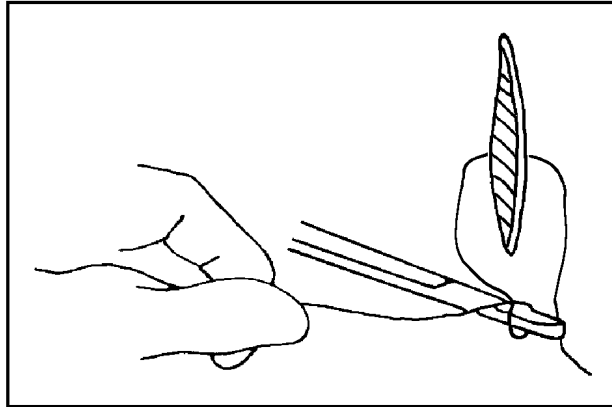

Figure 3-33
- (3) Grasp the end of the short suture with the needle holder. (See Figure 3-33.)